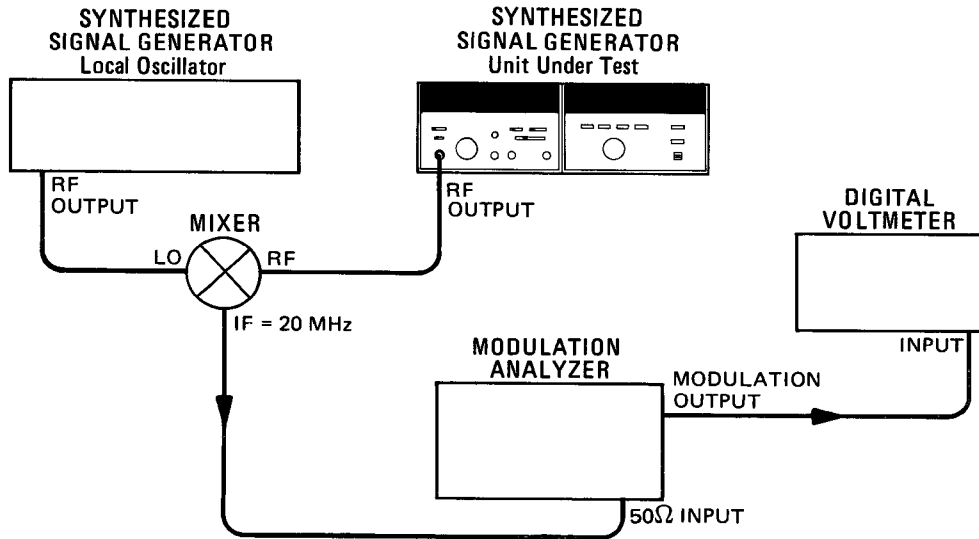

Figure 4-10. Residual FM in FM and CW Modes Test Setup
**PROCEDURE:** 1. Connect the equipment as shown in Figure 4-10.